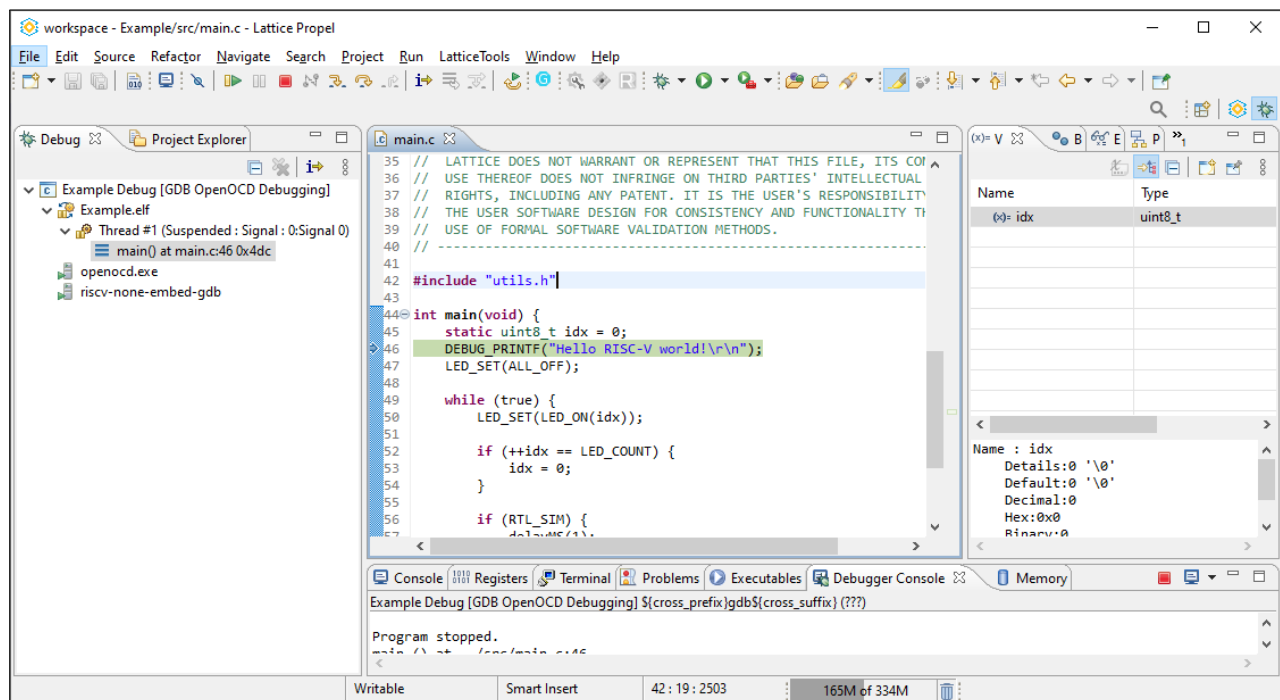

Figure 3.44. Debug Perspective 1
6. The Lattice Propel window displays, as shown in Figure 3.44. The execution stops at the beginning of the main() function.